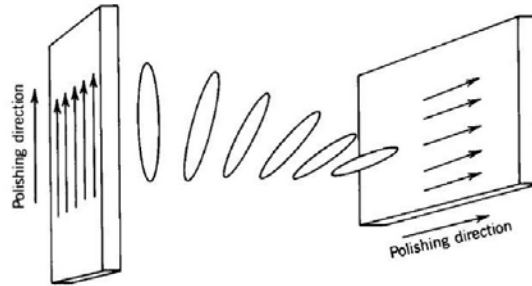

Figure 9: Effect of rubbing direction on LCD alignment. (From *Fundamentals of Photonics* by B.E.A. Saleh and M.C. Teich.)
**Step (1)** Using the microfiber cloth in your lab kit, rub both of your transparent ITO-PVA slides along the 1.5 in direction. **(There is a black dot on the glass side of the slide. You need to rub the opposite side which is coated with ITO and PVA).** Figure 9 illustrates the effect of the rubbing direction on the alignment of the liquid crystals.